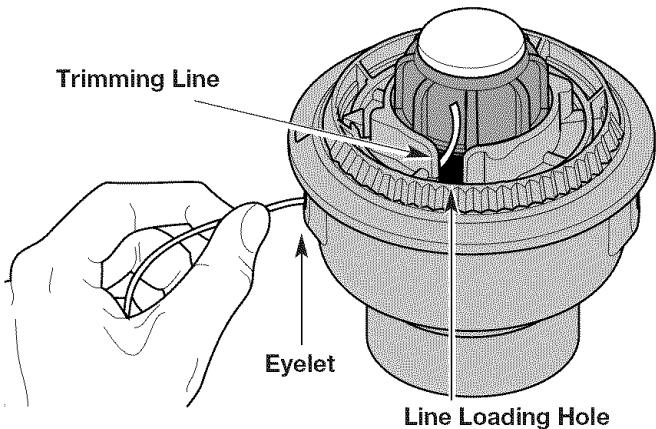

Fig. 15
**NOTE:** Before installing new trimming line onto the existing reel, remove any old line from the RapidRewind Head by pulling the line out of the line loading or locking holes (See Figs. 15 and 16 for location of holes).
2. Insert 10 feet (3 m) of trimming line into one of the two eyelets and push it up through the line loading hole in the reel (Fig. 15). Do not bend the line when inserting it into the eyelet.